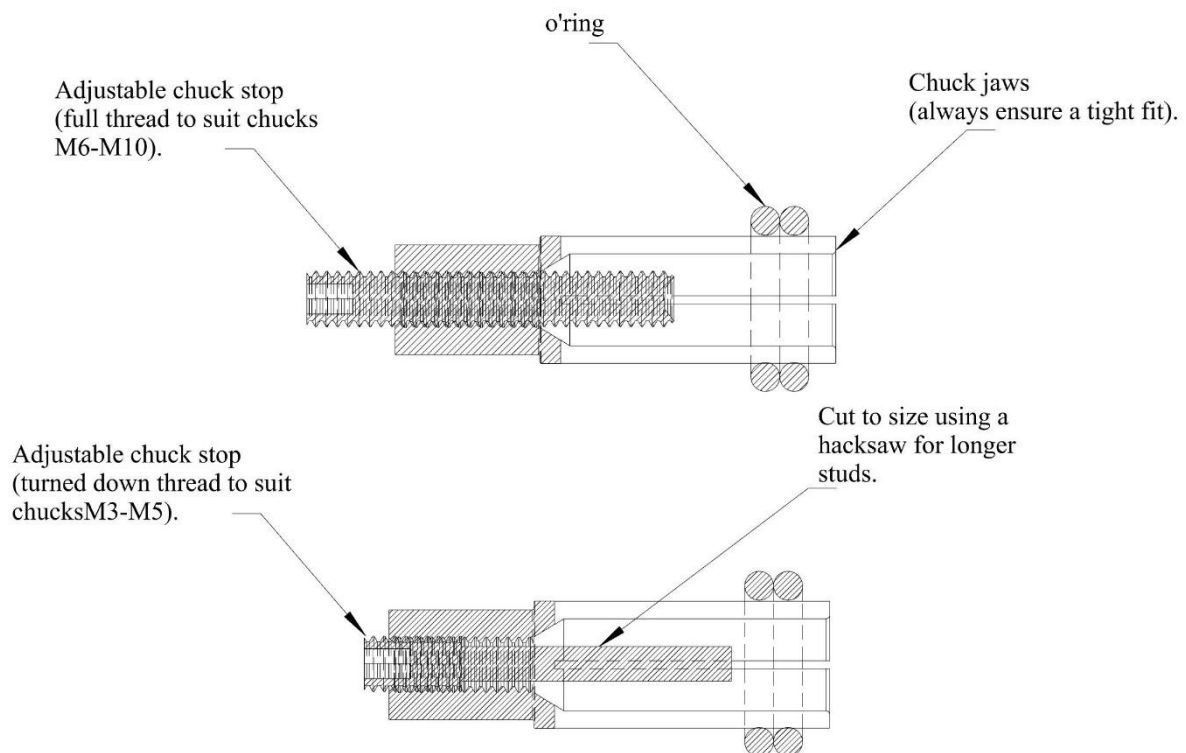
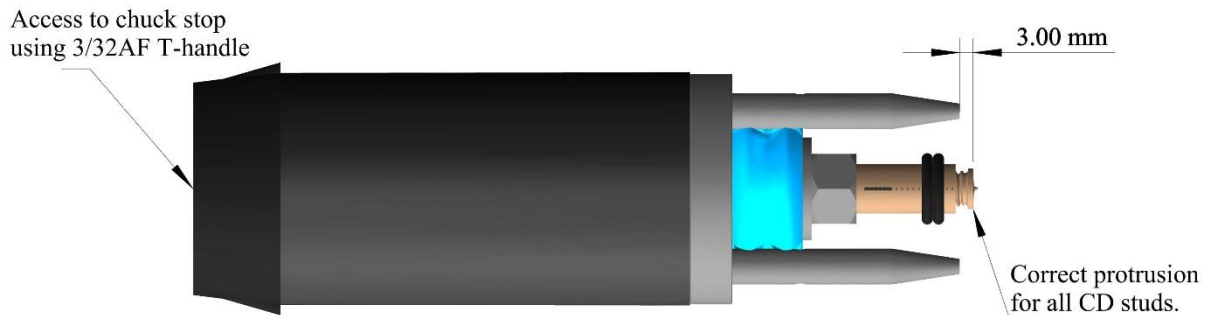

Figure 10.
Figure 11.
- If an M3, M4 or M5 chuck is required then the turned down stop may need to be cut to accommodate for longer studs above 16mm long (see figure 10).
- Refer to figure 10 and figure 11 for a visual guide to contact gun setup.
- To adjust the gap, loosen the M4 grub screw at the rear of the gun. Using a large flat screwdriver turn the gap stop anti clockwise to increase the gap size and clockwise to decrease the gap size. The gap size should be approximately 2-3mm. The gap size is the distance between the head of the loaded stud and the end of the gun legs when the gun shaft is pushed all the way back against the gap stop. Once adjusted don't forget to tighten the M4 grub screw to lock it in place. (See figure 10).
- Refer to figure 9 and figure 10 for a visual guide to contact gun setup.